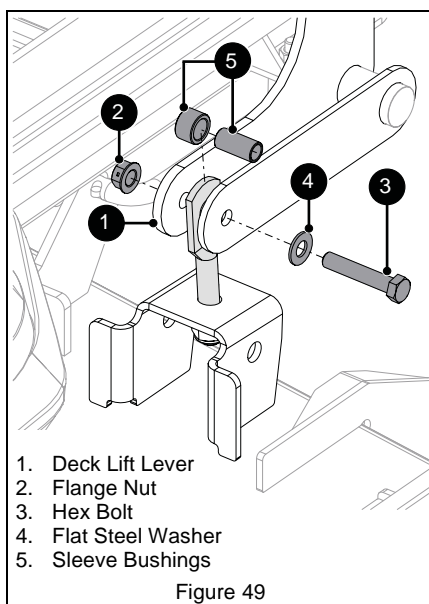

Figure 49
8. Remove one flange nut, one hex bolt, one flat steel washer and two sleeve bushings from deck lift lever. Retain hardware. See Figure 49.